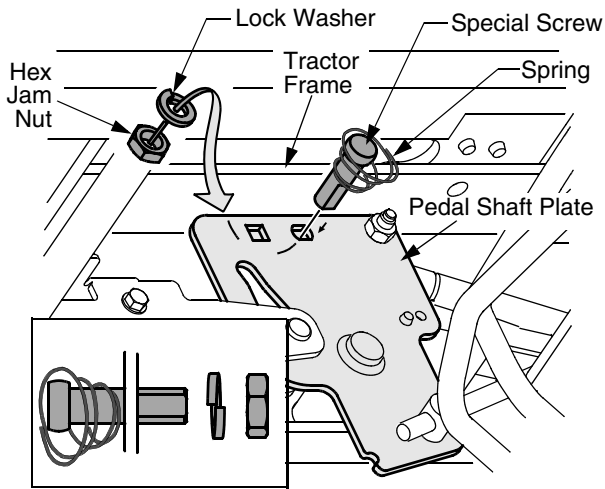

Figure 6
NOTE: The control linkage of the tractor will limit the distance the pedal shaft can be moved. Do not force the pedal shaft; move the shaft only as far as necessary to install the lock washer and nut on the frame side of the pedal shaft plate. Refer to Figure 6.
- Slide the compression spring (Ref. 2), large end first, onto the special screw. Refer to Figure 6.
- Insert the double 'D' end of the special screw (Ref. 1) into the double 'D' hole of the pedal shaft plate. Refer to Figure 6.
- Slide the lock washer (Ref.7) onto the special screw, then thread the hex jam nut (Ref.4) onto the screw. Refer to Figure 6.